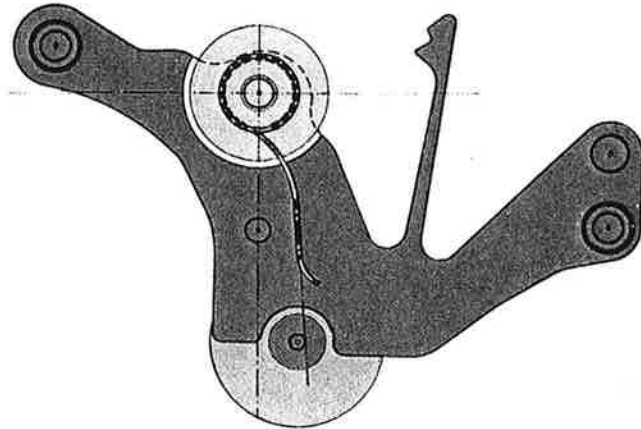

Fig. 21
- 15.1. Check the tension of the corrector spring (Fig. 21) and the liberty of the corrector. The corrector spring is riveted to the jumper for setting lever mounted. Change the whole jumper if the spring does not work properly.